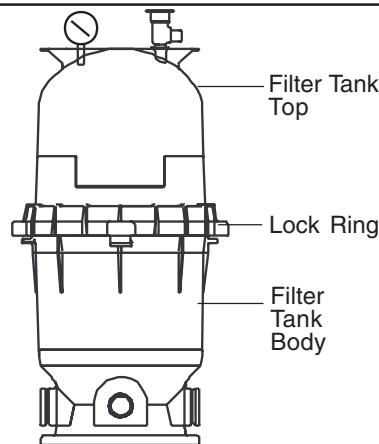

Figure 2.
2. Be certain the O-ring is in position in the lower tank half. Place the filter lid over the lower tank half. Making sure it is fully and firmly seated on the tank half, see Figure 2 on page 8.